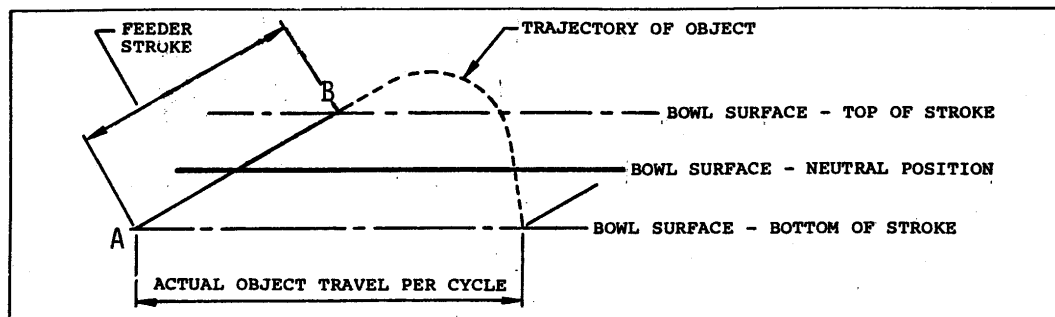

FIGURE 2 - MATERIAL FLOW ON BOWL SURFACE
Figure 2 illustrates the action of a part moving along the bowl surface. During one vibration cycle, the bowl surface travels from point (A) to point (B) and back to point (A). The part continues to travel on a trajectory as shown, coming to rest on the bowl surface to a position further forward.